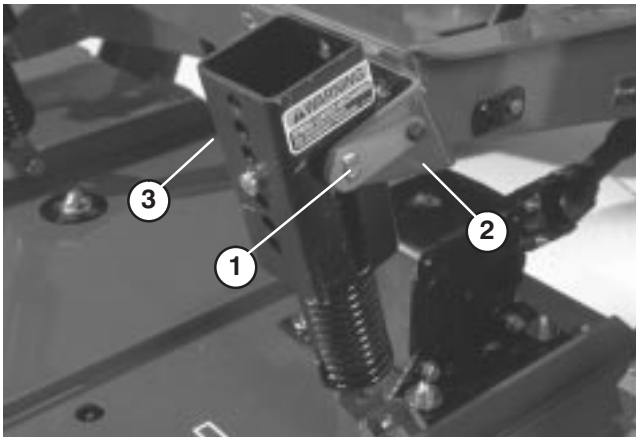

Figure 23
SEPARATING CUTTING UNIT FROM TRACTION UNIT (Fig. 23–25)
2. Disconnect counterbalance from traction unit, remove lock pins from brackets, separate spring tension assemblies from brackets and lay them down on the deck. Loosely secure lock pins to brackets to prevent losing them (Fig. 23).
MOUNTING CUTTING UNIT TO TRACTION UNIT (Fig. 23–25)